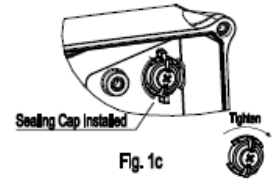

Fig. 1c
5. Reinstall Sealing Caps by rotating clockwise, a quarter turn to maintain Type 4X, IP69K rating. (See Fig. 1c)